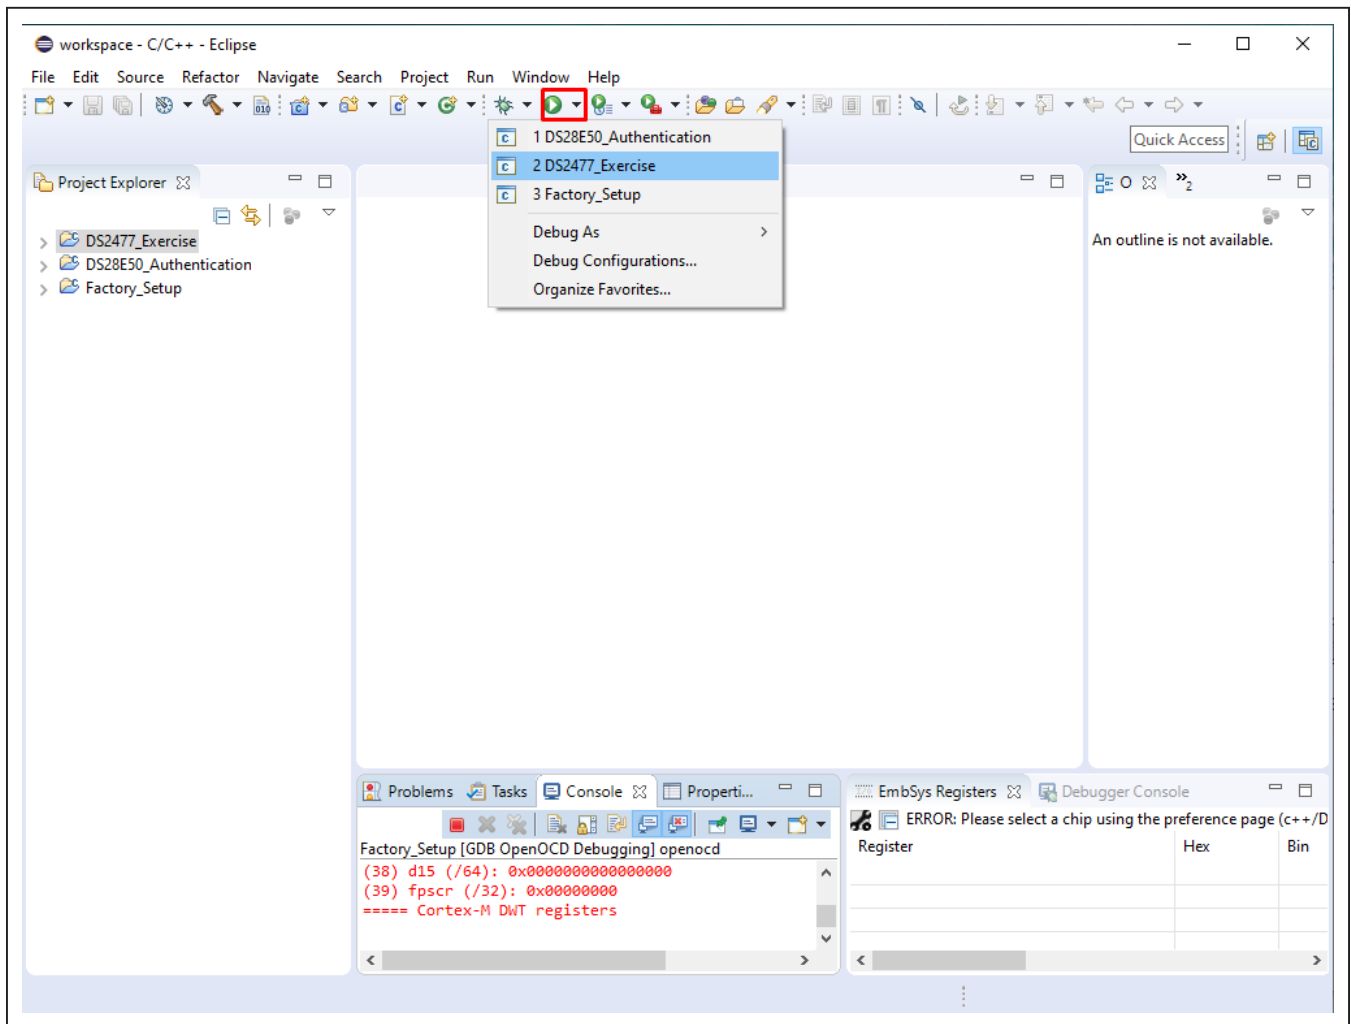

Figure 11. Running the demo program.
11) From the **Eclipse** dialog box, select the example program to run under the drop-down box located next to the green **Run** button as shown in Figure 11. The output appears on the serial console as shown in Figure 12.